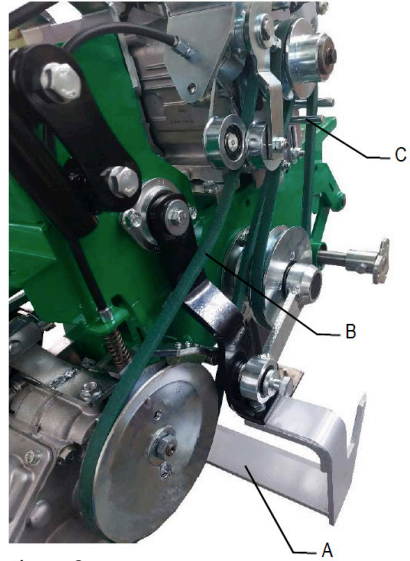

Figure 9
- Remove the blade (Fig.9, Ref. A) following the instructions provided in the section entitled "Blade removal and replacement".
- Then remove the forward control belt from the lower pulley by turning the belt anti-clockwise (Fig.9, Ref. B)
- Afterwards check that the belt is positioned and working correctly using the relative forward control lever. When this lever is lowered and the belt is at maximum tension, the distance between the belt and the relative belt guides (Fig. 9, Ref. C) should be approximately 2 mm.